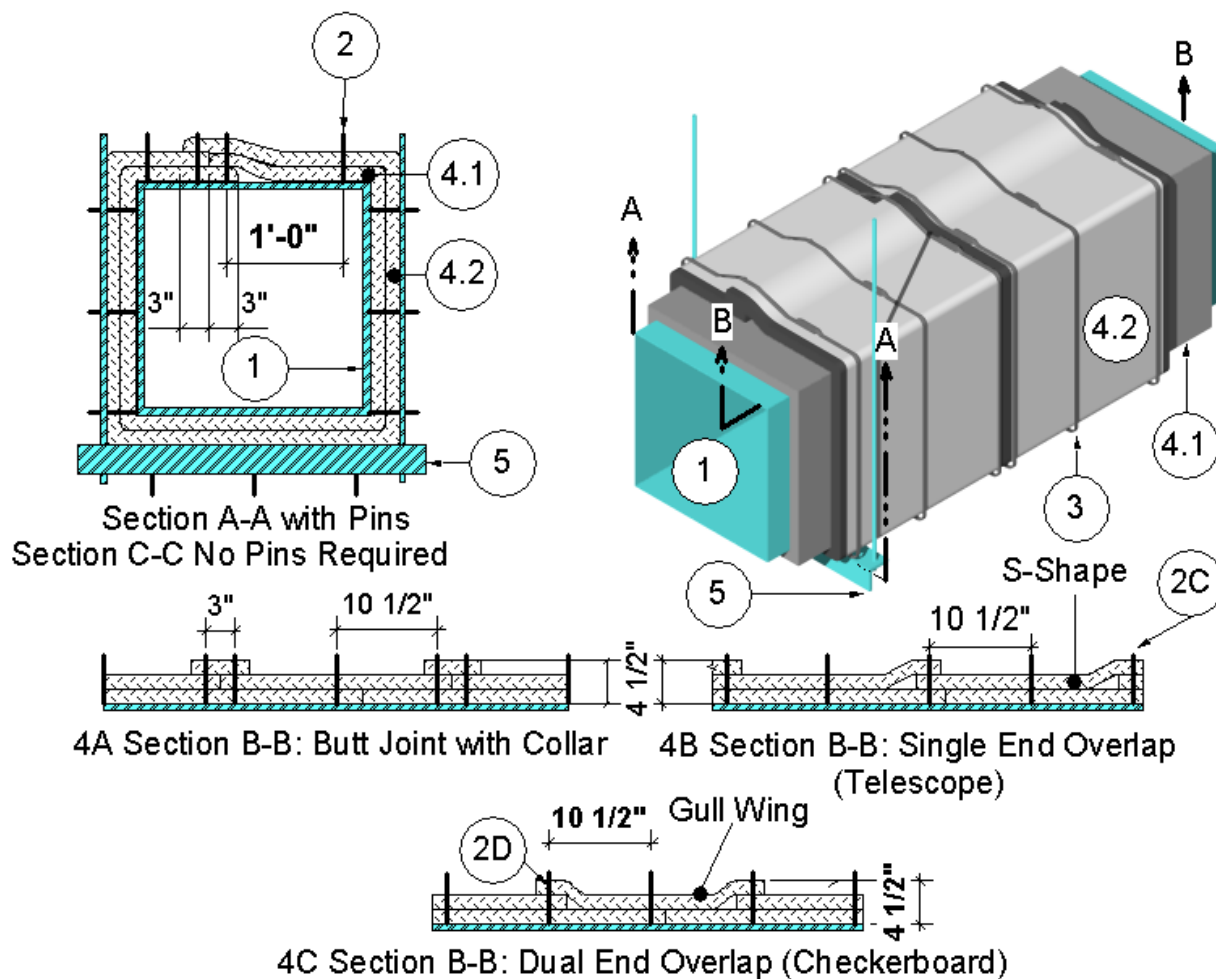

Figure 1
2. PINS: Refer to Figure 1. Use minimum 12 GA, 6-1/2 in. (165 mm) long, steel insulation pins or minimum 12 GA, steel cup head insulation pins. The length of the cup head pins may be increased if needed where the thickness of insulation is greater due to overlapping installation techniques. Weld pins to the grease duct (Item 1), if using cup head insulation pins, do so after application of duct insulation (Item 4). Match the following fastener method with corresponding duct insulation (Item 4) installation method.
- A. Butt Joint with Collar: Refer to Figure 1, 4A Section B-B. Locate pins at all blanket overlaps, on all sides of the grease duct (Item 1), and meet the following requirements.
- i. Space pins maximum 12 in. (305 mm) apart in rows around the perimeter of grease duct (Item 1). Locate pins maximum 6-3/4 in (171 mm) from the edges of the grease duct (Item 1). Refer to Figure 1, Section A-A.
of the grease duct (Item 1), Refer to Figure 1, 4A Section B-B.
- B. Single End Overlap (Telescope): Refer to Figure 1, 4B Section B-B. Locate pins at all blanket overlaps, on all sides of the grease duct (Item 1), and meet the following requirements.
- i. Space pins maximum 12 in. (305 mm) apart in rows around the perimeter of grease duct (Item 1). Locate pins maximum 6-3/4 in. (171 mm) from the edges of the grease duct (Item 1). Refer to Figure 1, Section A-A.
- ii. Space the rows of pins maximum 10-1/2 in. (267 mm) apart along the length of the grease duct (Item 1). Refer to Figure 1, 4B Section B-B.
- C. Dual End Overlap (Checkerboard): Refer to Figure 1, 4C Section B-B. Locate pins at all blanket overlaps, on all sides of the grease duct (Item 1), and meet the following requirements.
- ii. Space the rows of pins maximum 10-1/2 in. (267 mm) apart along the length grease duct (Item 1). Refer to Figure 1, 4C Section B-B.
- A. **Banding and Pin Method:** When using banding and pin (Item 2) combination, position and weld pins to the grease duct (Item 1) on bottom of grease duct for horizontal sections and on one of the wide sides for vertical sections. Space pins a maximum of 12 in. (305 mm) on center transversely and also centered at the overlaps of the duct insulation (Item 4) as indicated by the installation method chosen. Space pins maximum 10-1/2 in. (267 mm) apart to create rows of pins along the length of the grease duct. Locate pins maximum 12 in. (305 mm) from the edges of the grease duct. No other pins are required. Overlap all duct insulation joints a minimum of 3 in. (76 mm) Secure the duct insulation to the pins with 2-1/2 in. (64 mm) square or round galvanized steel speed clips. Turn down or cut off pins that extend beyond the duct insulation. After duct insulation is installed, apply banding. Locate bands 1-1/2 in. (38 mm) from each edge of the outer layer duct insulation (Item 4), centered on the overlap. For the butt joint with collar insulation method (refer to Item 4A and Figure 1, 4A Section B-B) ensure that a band is placed over the collar on each side of the joint such that the bands replace the two sets of pins (Item 2) required when using the pin (Item 2) method.
- B. **Banding Only Method:** Use banding only method as an alternative duct insulation (Item 2) fastening method, only when the grease duct (Item 1) width and height are both less than or equal to 24 in. (610 mm). After second layer of duct insulation (Item 4) is installed, apply banding. Locate bands 1-1/2 in. (38 mm) from each edge of the duct insulation (Item 4), centered on the overlap. For the butt joint with collar insulation method (refer to Item 4A and Figure 1, 4A Section B-B) ensure that a band is placed over the collar on each side of the joint such that the bands replace the two sets of pins (Item 2) required when using the pin (Item 2) method. For the compressed butt joint insulation method (Item 4D), ensure that banding is located nominal 2-1/2 in. (64 mm) on center from each side of the compressed joint. For insulation methods with overlapping joints (Items 4A to 4C) place additional banding in the field area between the overlaps spaced a maximum of 10-1/2 in. (267 mm) on center. For the
compressed butt joint insulation method (Item 4D) place additional banding in the field area between the compressed joints spaced a maximum of 9 in. (229 mm) on center. Refer to Figure 1, Section C-C. No pins (Item 2) are required when this banding option is used.
DUCT INSULATION: Apply two layers of the nominal 1-1/2 in. (38 mm) thick, 6 pcf density (96 kg/m³) duct insulation over the entire surface of the grease duct (Item 1). Apply the first layer of duct insulation with longitudinal joints overlapping a minimum of 3 in. (76 mm) and transverse joints butted with the following exception: when Banding and Pin Method (Item 3A) is used for grease ducts having a cross-sectional dimension greater than 24 in. (610 mm) install transverse joints with a minimum overlap of 3 in. (76 mm). Offset the second outer layer (Figure 1, 4.2) one half the width of the inner first layer (Figure 1, 4.1) so that the joints of the inner first layer (Figure 1, 4.1) are covered by and approximately in the center of the second outer layer (Figure 1, 4.2). Apply the second layer (Figure 1, 4.2) using one of the methods (A, B or C) described below. Use blanket, available in various widths, that is fully encapsulated with a polypropylene-foil scrim. Wrap one layer of insulation around the grease duct (Item 1) perimeter so that each terminating end of duct insulation overlaps onto the starting end of duct insulation a minimum of 3 in. (76 mm) at all longitudinal joints. Stagger the longitudinal overlap location so that no two consecutive adjacent overlaps align. Refer to Figure 1, 4A Section A-A for transverse overlap section view. Cover all visually-exposed ends and edges of duct insulation with nominal 4 in.
- A. **Butt Joint with Collar:** Refer to Figure 1, 4A Section B-B. Wrap the grease duct (Item 1) with two layers of duct insulation installed with butt joints at all circumferential joints. Apply the first layer, center pieces of duct insulation over 3 in. (76 mm) wide pin bay. Butt each end of each piece of duct insulation together with preceding edge of duct insulation. Each piece of installed duct insulation width is its nominal width. (Example: each piece of nominal 24 in. (610 mm) wide duct insulation when installed is 24 in. (610 mm) wide.) Offset the second layer of duct insulation so that the butt joint of the first layer of duct insulation is centered under the second layer of duct insulation and install in same manner as first layer of duct insulation. Place and center 6 in. (152 mm) wide collar of duct insulation over the butt joint. Overlap 6 in. (152 mm) wide collar onto each adjacent duct insulation 3 in. (76 mm). Verify all duct insulation butt joints with collars are three layers of duct insulation in overall thickness.
- B. **Single End Overlap (Telescope):** Refer to Figure 1, 4B Section B-B. Wrap the grease duct (Item 1) with two layers of duct insulation. Install first layer of duct insulation with transverse joints butted and longitudinal joints overlapping a minimum of 3 in. (76 mm). Install second layer using the following installation technique:
- i. Starting at one end of the grease duct (Item 1), apply the first piece of duct insulation around the grease duct (Item 1) overlapping on itself by minimum 3 in. (76 mm) which must be located at the pins (Item 2). Refer Figure 1, Section A-A.
- ii. Position and overlap the leading edge of the second piece of duct insulation nominally 3 in. (76 mm) over the flush edge of the first piece of duct insulation. Place the opposite edge of the second piece of duct insulation flush against the surface of the first layer of duct insulation. An “S-shaped” cross section of the duct insulation is created. Refer to Figure 1, 4B Section B-B.
- C. Dual End Overlap (Checkerboard): Refer to Figure 1, 4C Section B-B. Apply the first layer of duct insulation with transverse joints butted and longitudinal joints overlapping a minimum of 3 in. (76 mm). Install second layer using the following installation technique: After installation, verify all duct insulation overlaps are three layers of duct insulation in overall thickness.